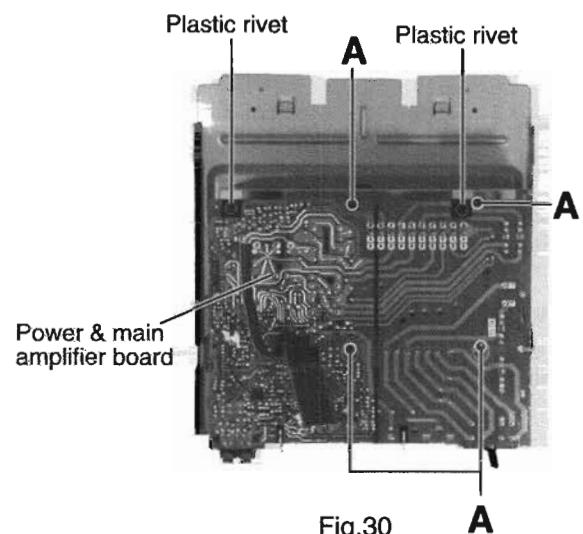

Fig.30
■Removing the power & main amplifier board (See Fig.30 and 31)